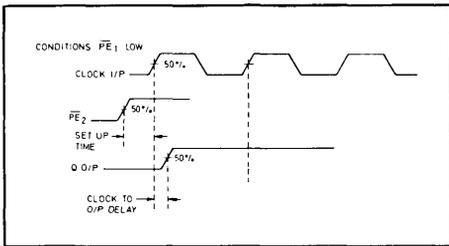

Fig. 3 Set-up timing diagram
- Set-up time is defined as the minimum time that can elapse between a L→H transition of a control input and the next L→H clock pulse transition to ensure that the  $\bar{1}0$  mode is forced by that clock pulse (see Fig. 3).